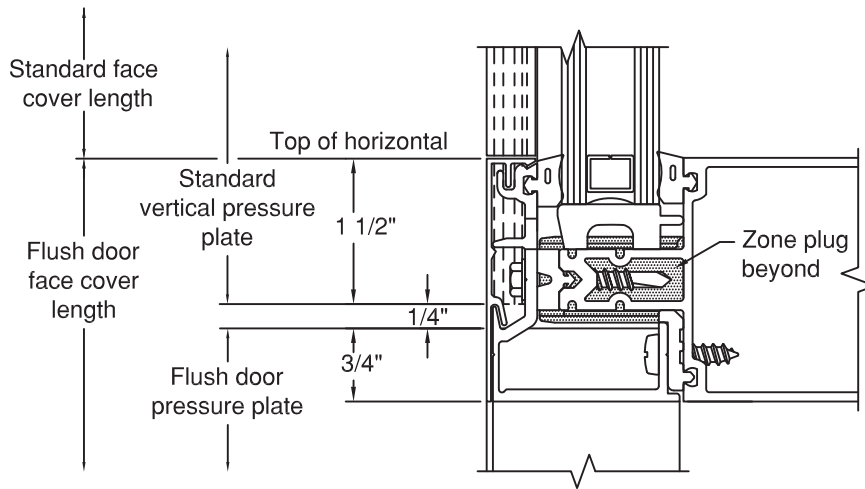

Figure 32
C.3.7 Install face covers onto pressure plates. **SEE FIGURE 32.**